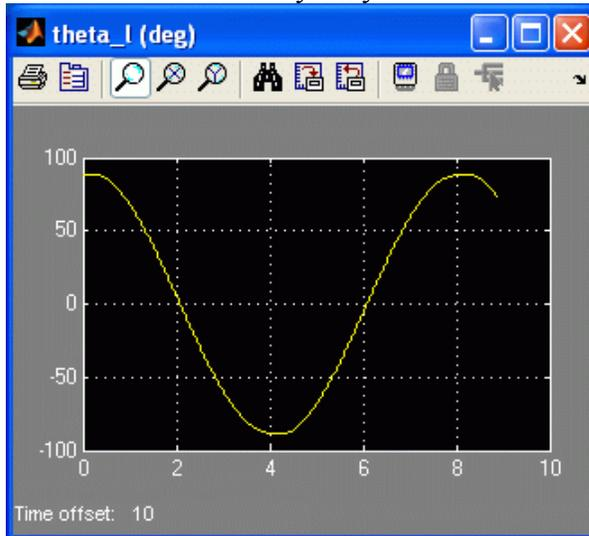
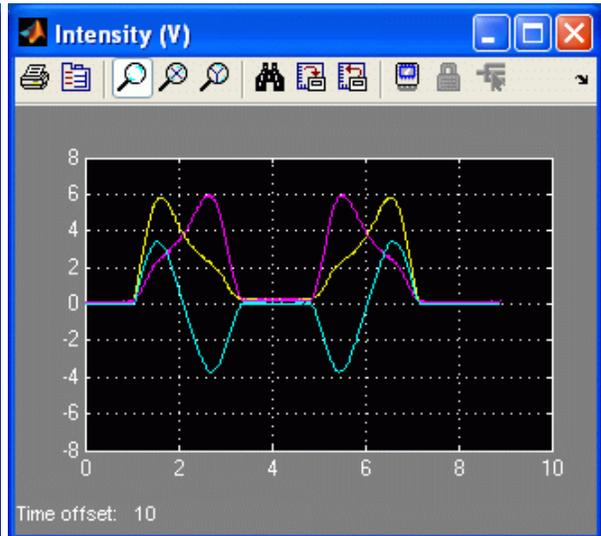

Figure 16: Servo angle response in calibration mode
Figure 17: Light intensity response in calibration mode
7. Select QUARC | Start to begin running the controller. The camera will move around to find the light source, align itself to the light, and then begin to swivel ± 90 deg. When it's in this *calibration mode*, the scopes should have a responses similarly as shown in Figure 16 and Figure 17. In the *Intensity (V)* scope, the right intensity is yellow, the left intensity is purple, and the differential intensity is cyan.